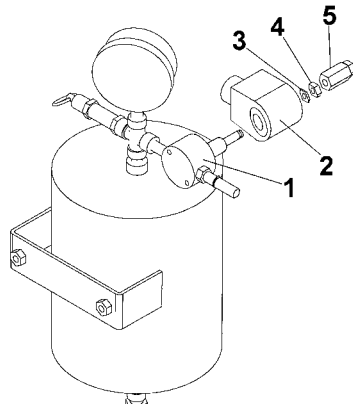

Figure 3. Air Tank Solenoid Coil Removal
1. Remove vent assembly (5) from solenoid valve (1). See Figure 3.
2. Remove nut (4) spring washer (3) and slide off the coil (2) from the solenoid valve (1). See Figure 3.
3. Unthread the electrical conduit from solenoid coil (2).